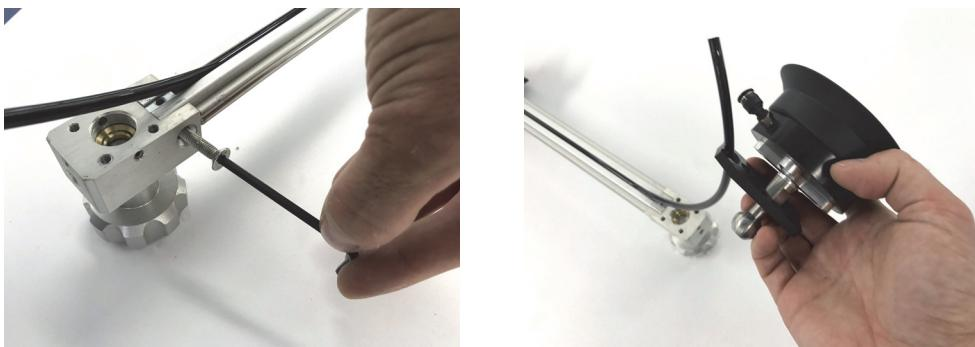

Figure 2-13 Fastening the bracket (left) and installing the mounting pod (right)
8. Fasten the pod bracket, and then install the mounting pod so that the tube passes through the opening on the pod (see Figure 2-13 on page 35).